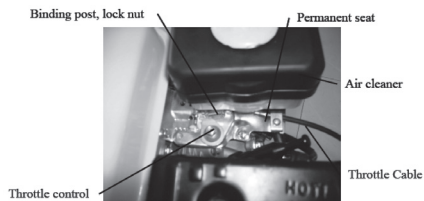

Fig. 2
2.2 Adjustment of oil throttle cable.(Fig. 2)